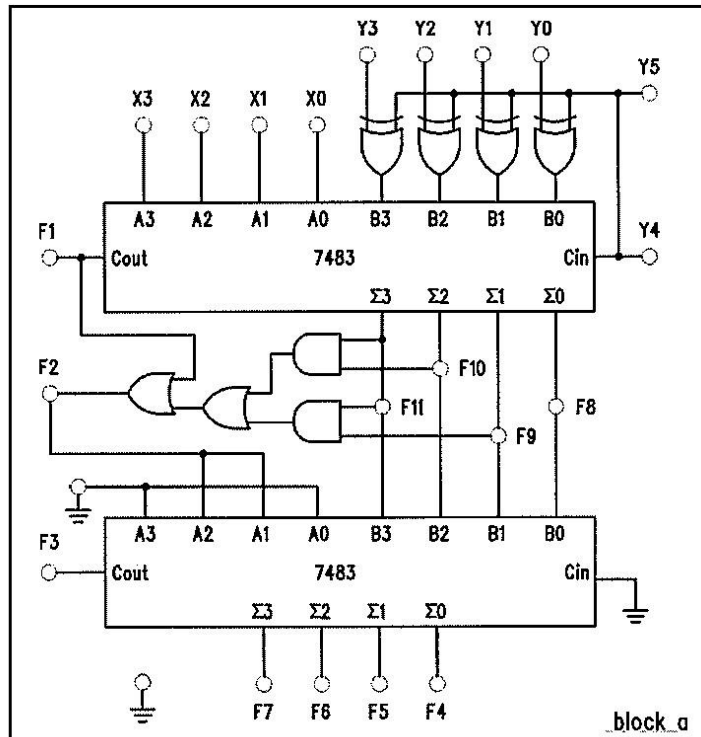

Figure 6.3
- 6.5 Figure 6.3 illustrates how to implement a full adder with a TTL IC74HC83. Construct the circuit as shown in Figure 6.3 to form an adder/ subtractor by making the necessary connections on the circuit **block d** at **Lab Module KL34002** so that it performs as a 4-bit full adder that adds number X ( $X_3 - X_1$ ) and Y ( $Y_3 - Y_1$ ).